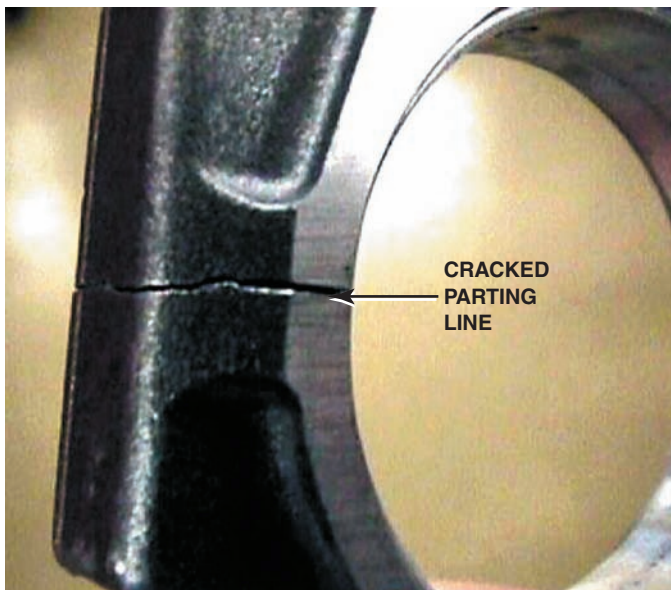

FIGURE 29-35 Powdered metal connecting rods feature a fractured parting line at the big end of the rod.
- The big end is then fractured using a large press. The uneven parting line helps ensure a perfect match when the pieces are assembled. ● **SEE FIGURE 29-35.**